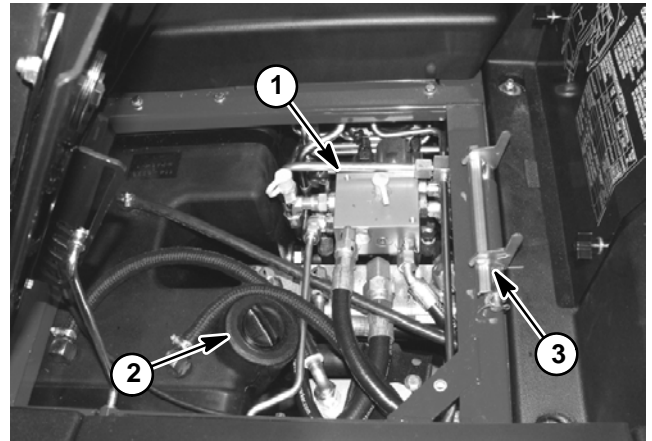

Figure 96
2. Raise and support operator seat to allow access to fan drive manifold (Fig. 96).